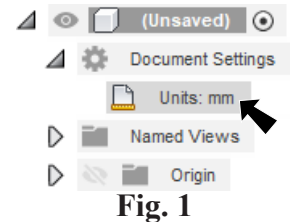

Fig. 1
Step 1. Confirm new document and **units** are mm, Fig. 1.